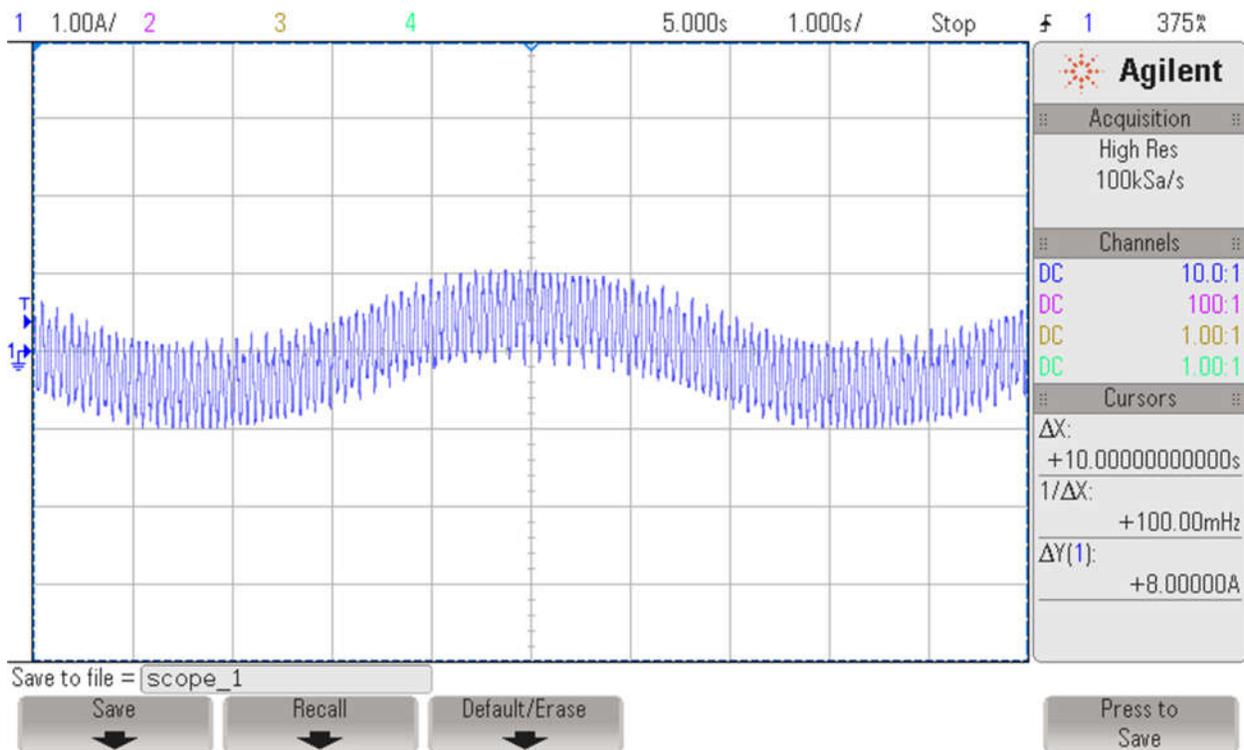

Figure 67: Phase current while running Rs Online with a command of 1.0 A
- Now change the maximum amplitude used for Rs Online by changing the following variable to 1.0 (A), the current will start looking as shown in **Figure 67**.